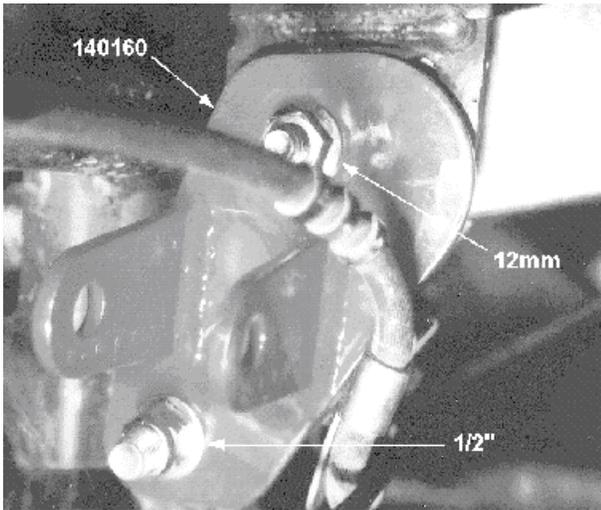

fig. 7
17. Place a 1/2" Nyloc nut and small 1/2" washer (both from bag # 860043) on the bolt and finger tighten. Place a M12 flange nut (from bag # 860043) on the M12 X100 bolt and finger tighten. Refer to fig. 7.